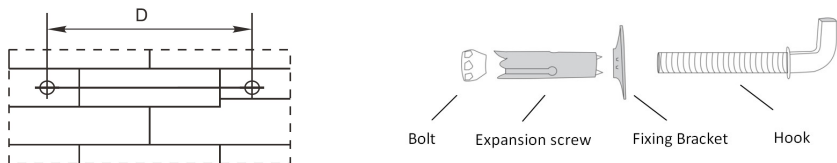

Fig. 3
3. Insert the expansion screws, make the hook upwards, tighten the screws to fix firmly. (see Fig.3 )
1. Hard connection: water mixer connecting the appliance: see Fig. 3